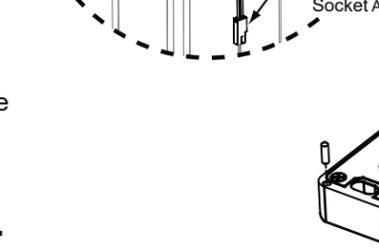

Figure 6
12. If you intend to use the anchor pins system, insert them into the four holes on the back side of the 4800F. See Figure 6. If you also intend to use the 1/8" thick spacer plate, you can now slip the plate over the pins.